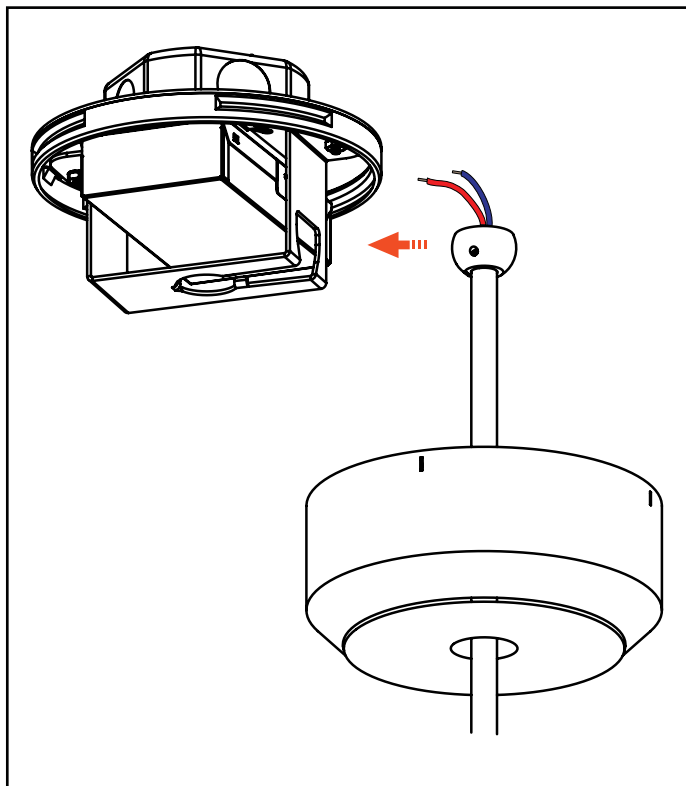

Figure 28
20. Insert swivel ball end of **Stem (I)** and fixture assembly into swivel support on the **Rigid Stem Mounting Bracket (F)**. (Figure 28)